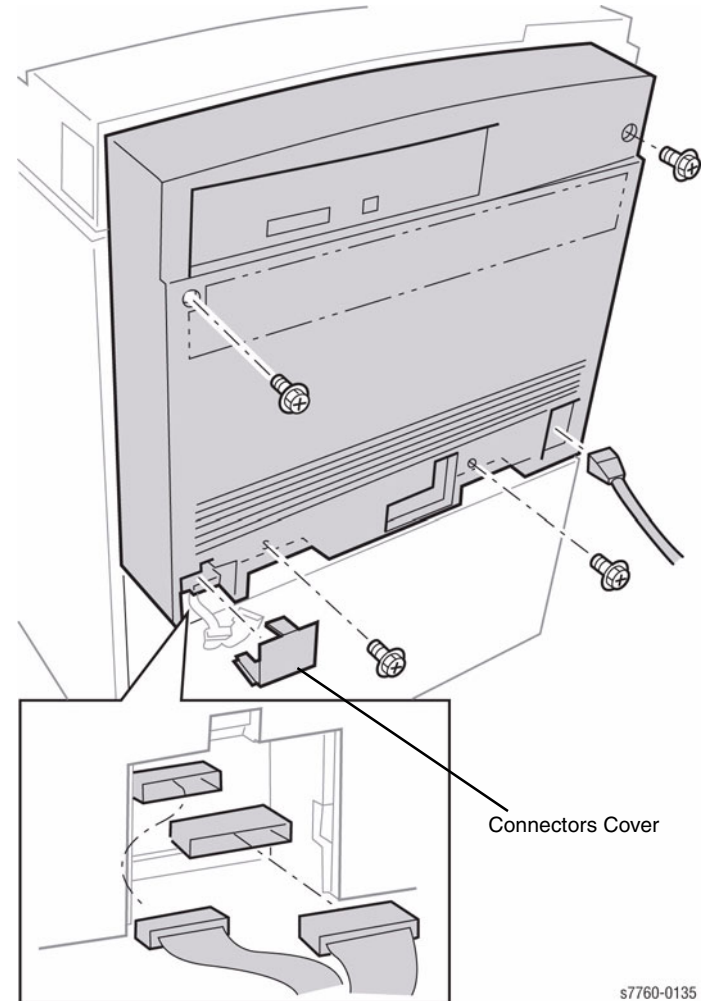

Figure 1 Removing Rear Cover
1. Removing the Rear Cover (Figure 1).